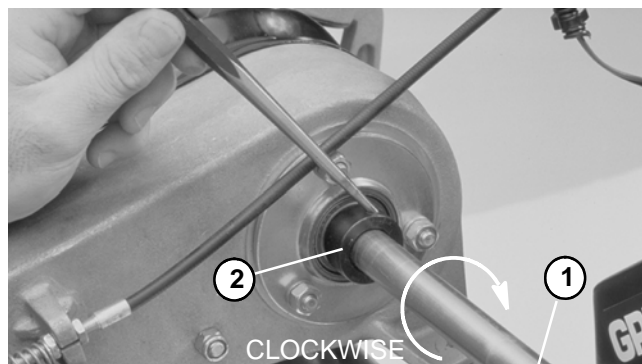

Figure 58
11. Loosen the set screw on the locking collar. Unlock collar by striking it with a punch in the clockwise direction (Fig. 58).
- B. Lock collar by striking it with a punch in the counterclockwise direction. Tighten set screw on the locking collar (Fig. 58).